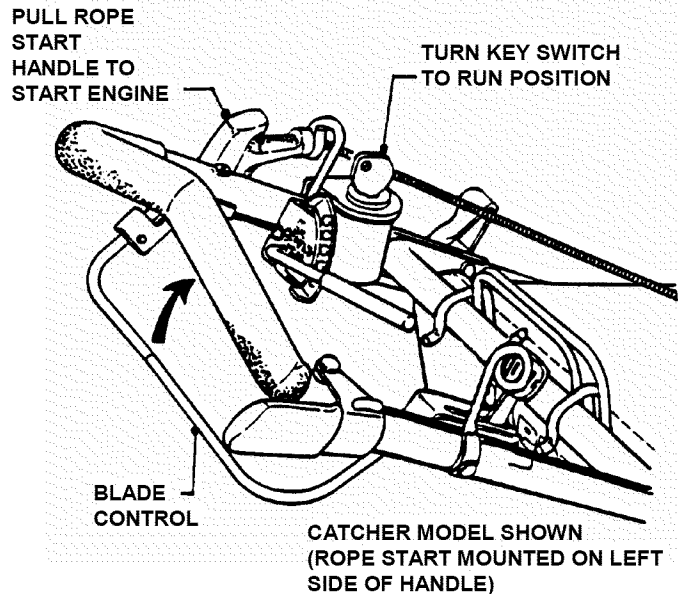

FIGURE 2.4
1. Move engine speed control to the "Fast" (Rabbit) position. See Figure 2.4.
4. Turn key to the run position. Pull rope start handle until engine starts. See Figure 2.4.